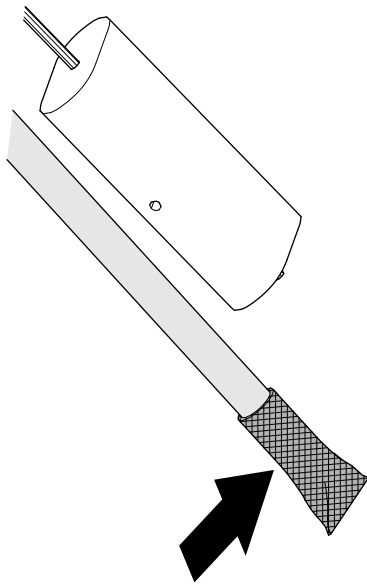

Figure 91
1. Clean the screen at the end of the fuel pick-up tube (Figure 91).